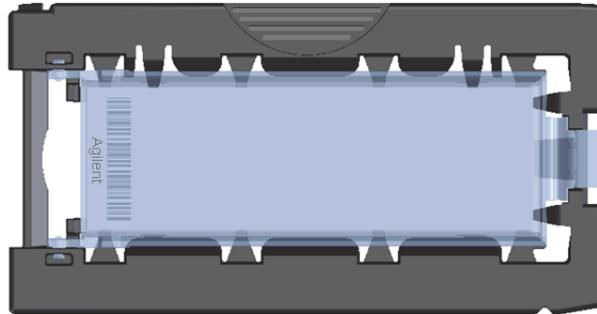

Figure 21. Slide inserted in slide holder – cover closed
- f** Close the plastic slide cover, gently pushing on the tab end until you hear it “click”. See **Figure 21**. Make sure that the slide holder is completely closed.